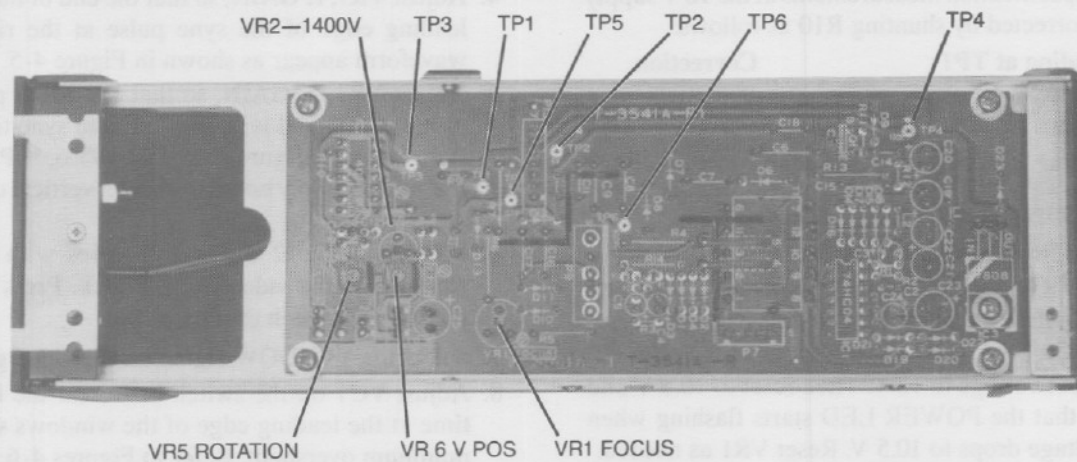

Figure 4-2. HV PC board, T-3541
Refer to Figure 4-2 for test point locations.
1. Monitor TP-6 on the HV power board with a DVM equipped with a high voltage probe. See Figure 4-2.
1. Adjust VR1, Focus, on the HV power supply board and VRB, ASTIG., on the power board for best overall focus. Refer to Figures 4-2 and 4-3 for control locations.
1. Adjust VR5, ROTATION, so that the waveform is parallel to the horizontal graticule lines. See Figure 4-2.